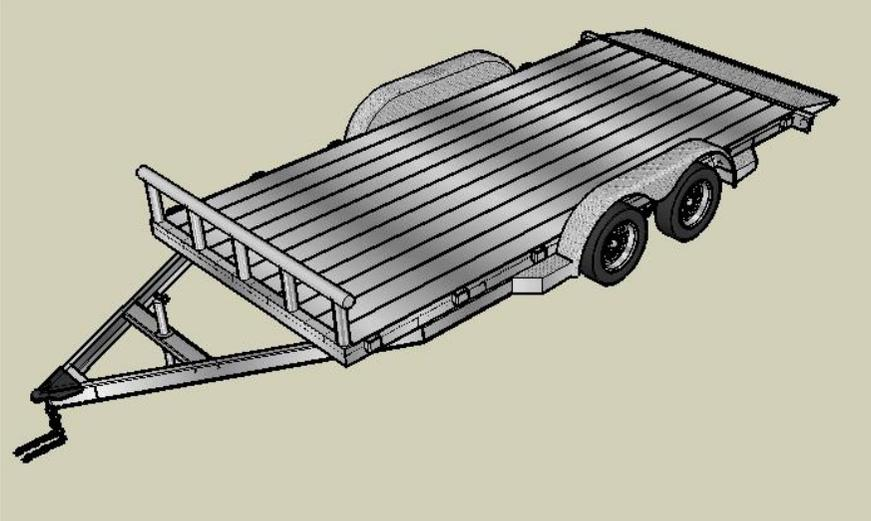

Figure 2: Trailer Bed Template
- ⇒ Our trailer design is based on a sketch provided by UBC farm. The design is to be built on an existing trailer that will be provided in January 2010* (See Figure 2&3). Due to current monetary and construction constraints, our trailer is a wood based design. It features a wooden inner frame with plywood cover. Recycled materials will be used where applicable. While our design is wood based, our conceptual design could be adapted to a metal design if additional resources become available next semester.